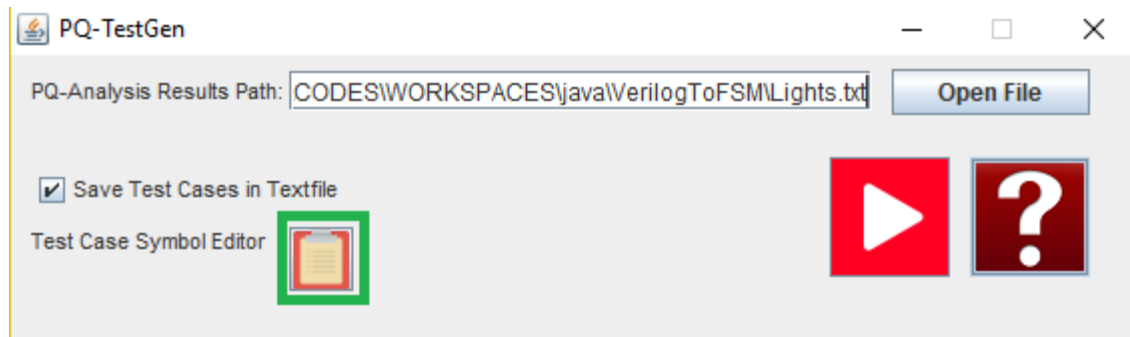

Figure 8
-Click “Test Case Symbol Editor” Button to set the test symbols and their encoding scheme (Figure 8).